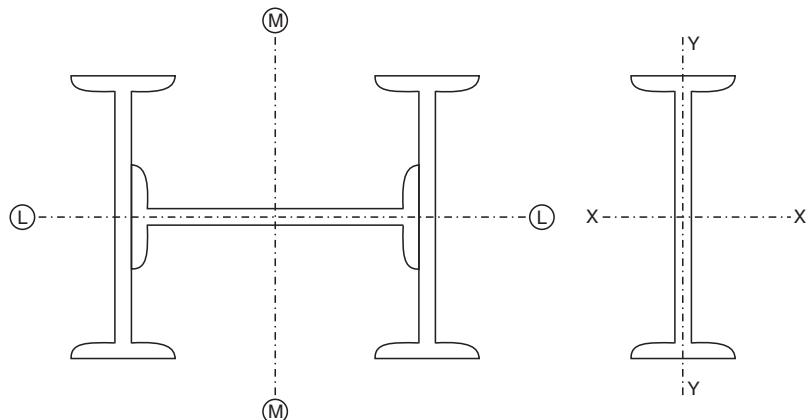

Fig. 8.25
**Example 8.6.** A stanchion is built up of three ISMB 225 as shown in Fig. 8.25. Calculate second moment of area of the built-up-section about the principal axes  $LL$  and  $MM$ , and the radius of gyration.
**Sol.** Refer to Fig. 8.25.